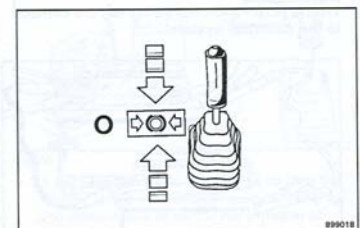

Fig. 31
- Move the travel lever (Fig. 31) to position "0". The machine is automatically braked by the hydrostatic drive.